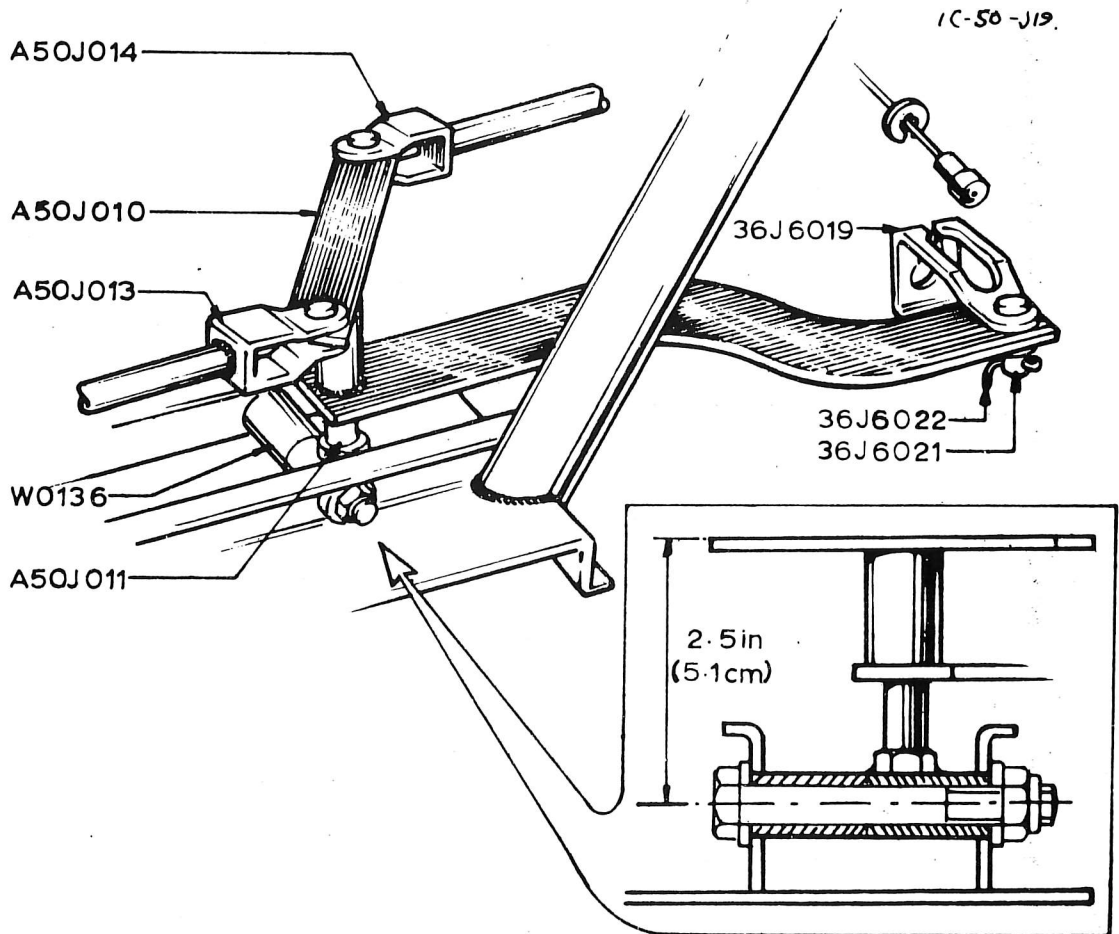

Fig. 19. HANDBRAKE LINKAGE & ACTUATING RODS ASSEMBLY
4. Fit the new assembly to the chassis as in Fig.19 and connect the outer ends of the actuating rods to their locations on the rear calipers, ensuring that the spacer is in the clevis before securing with the clevis pins and new split pins.